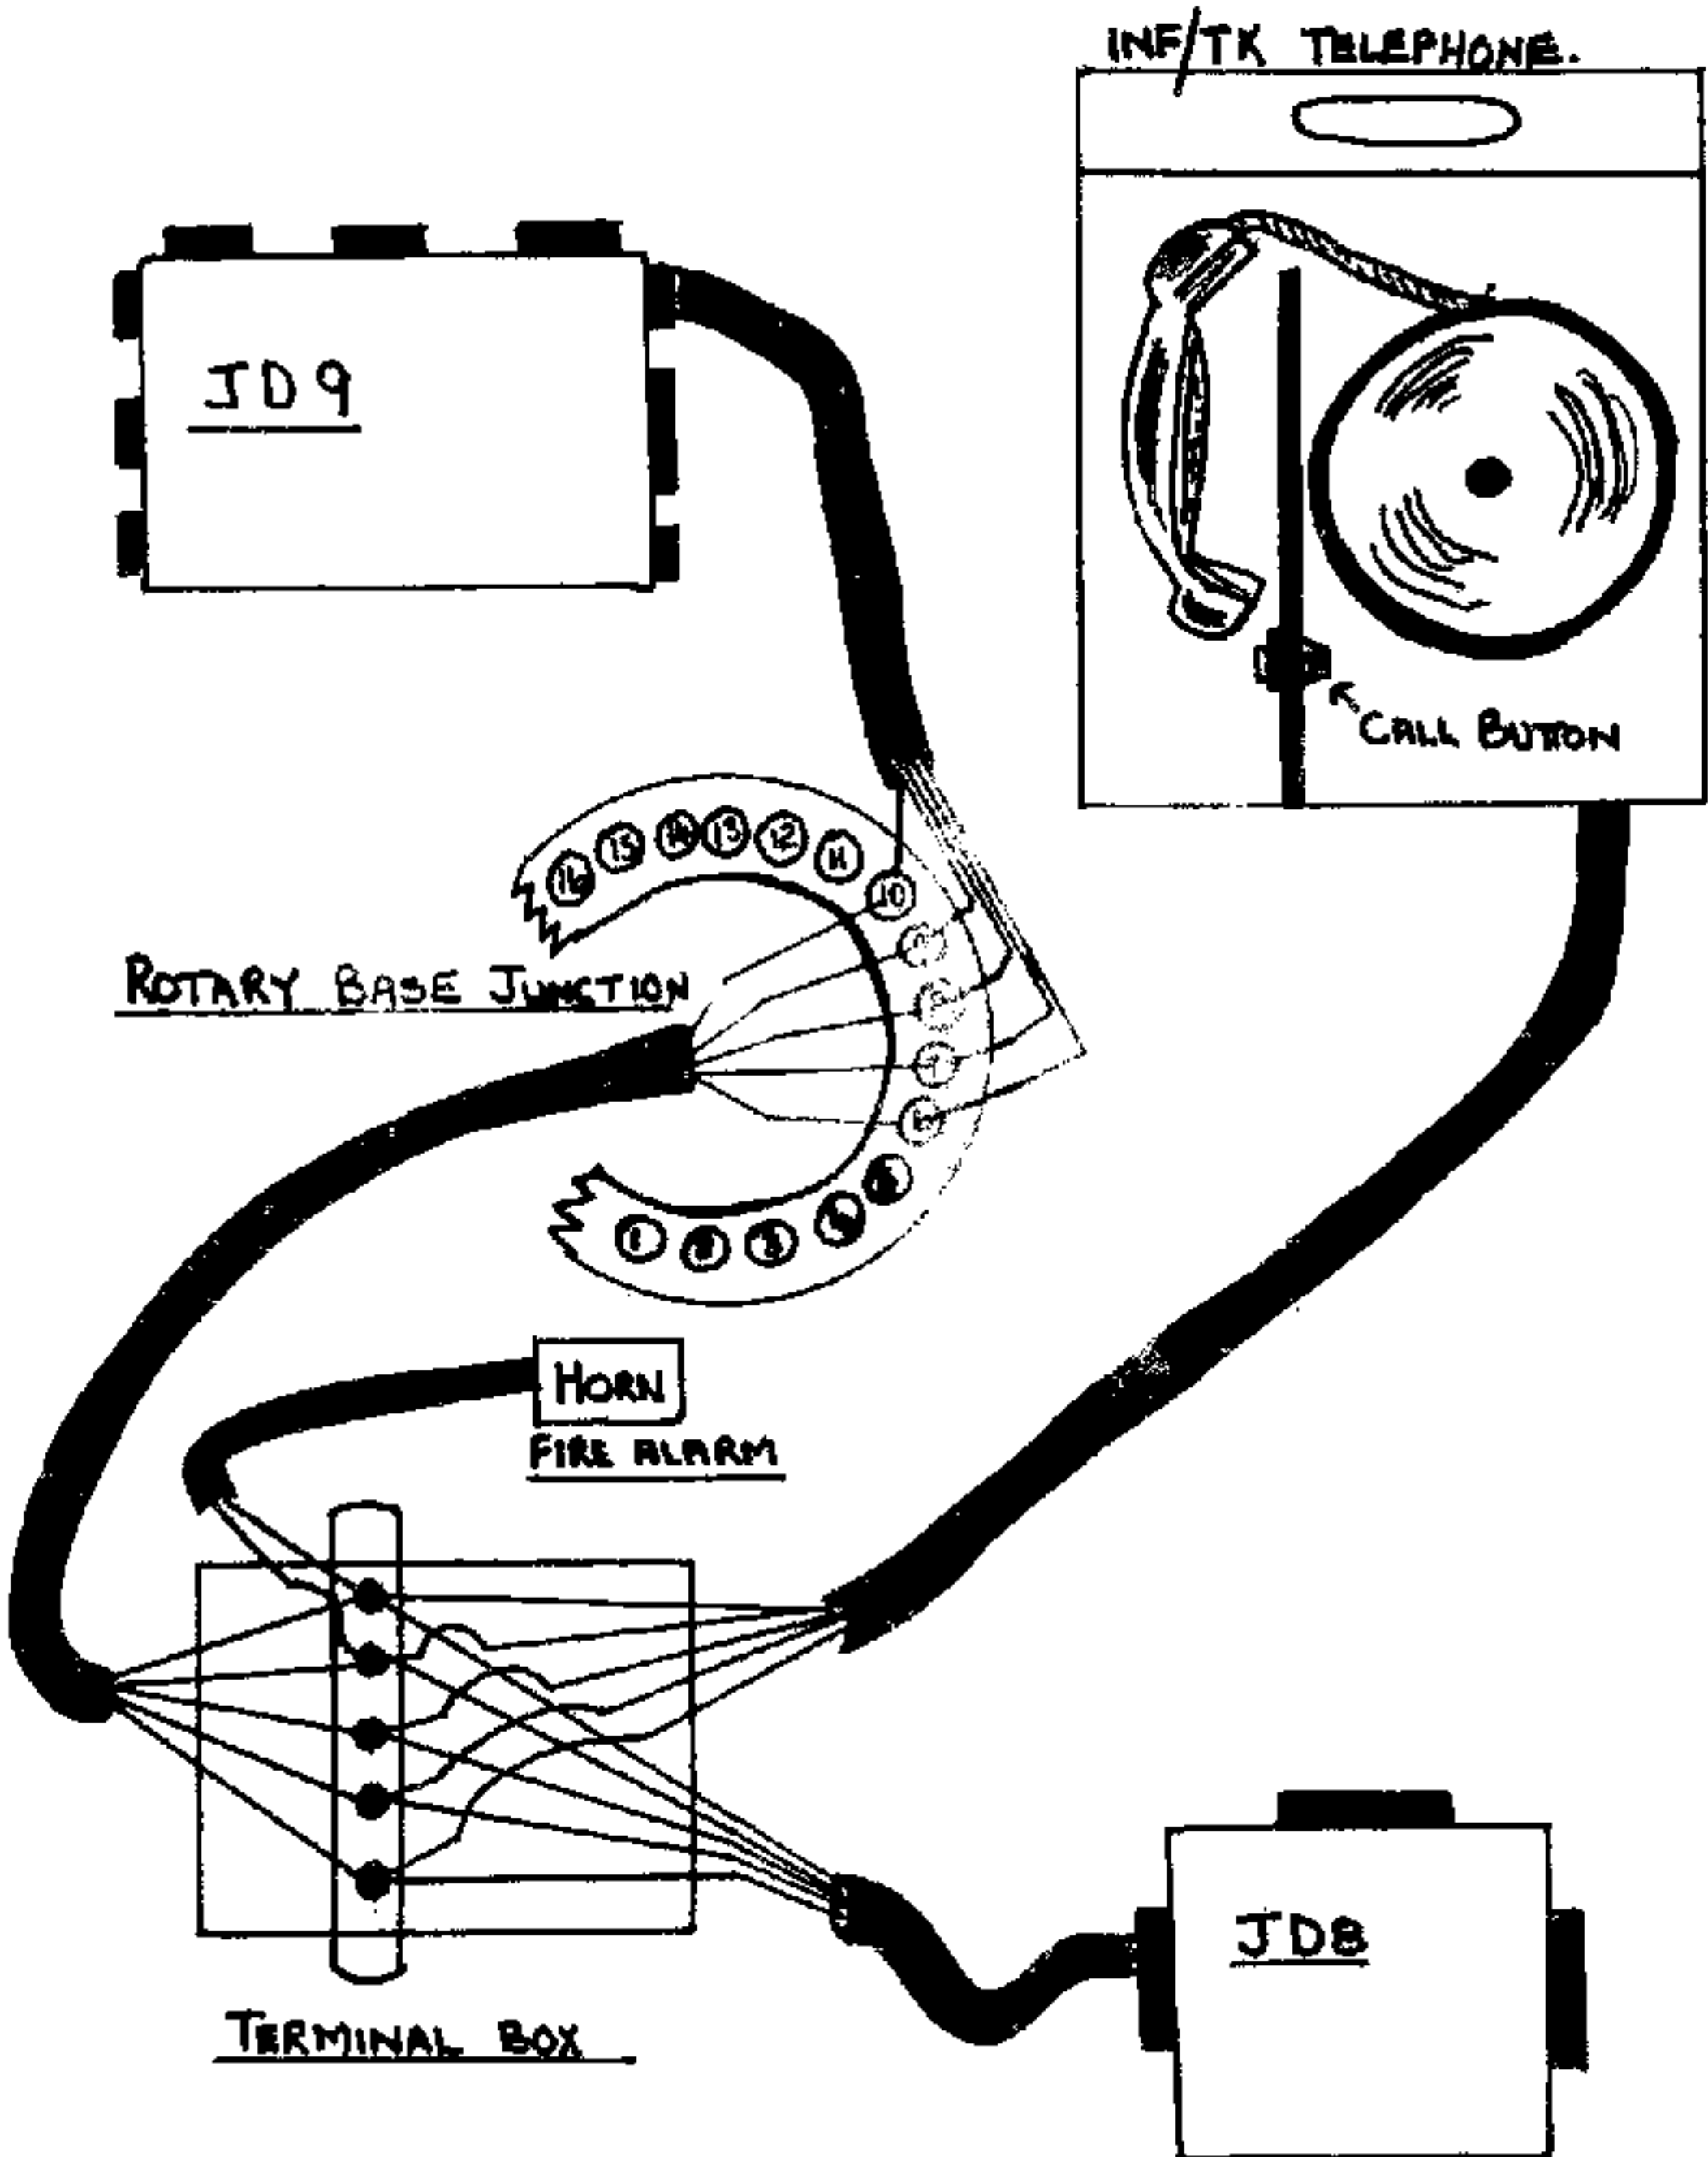

Figure 34
- b. PL2 Connector. No longer used. Previously used to feed the Inf/Tk telephone circuit into the harness. If a microphone is accidentally connected to this socket and the press to talk switch is pressed, the call system will operate. (See figure 34 for the modification to the telephone wiring). 6 pins.
needed. A hinged access door is fitted to the lower left front of the casing to enable the user to remove the rubber handset from the housing. The handset is fitted with a press-to-talk bar which has to be depressed for transmit and receive. Approximately 3 metres (10 ft) of cable is wound onto a spring-loaded return drum, and when the handset is released it will return under its own power to the housing. A CALL button is located inside the handset recess (right-hand side), to attract the attention of the crew commander. The telephone works into the IC circuit via the drivers JD8. (See figure 34). All crew members connected to the harness will hear the telephone as long as they have "I" selected on their control units.